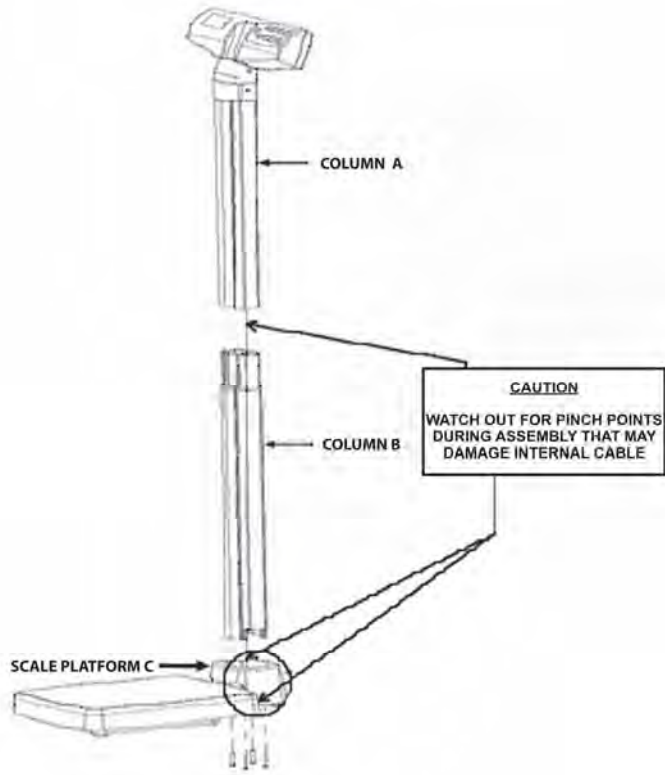

Figure 1
Assembling the 499KL Scale (Refer to Figures 1 - 8)
1. Carefully remove the scale platform and columns **A** and **B** from the carton. Place the scale platform and columns on a flat, level, and dry surface (see Figure 1).
2. Remove the 4 small screws and washers from the bottom of column **B** (see Figures 1 & 2).
3. Locate cable connector inside column **A** (see Figures 1 & 3).
4. While holding column **A**, slide the cable connector through the top of column **B**. The top of column **B** has a notch (see Figures 1 & 5).
5. Plug the cable connector into the RJ jack, located on the scale platform **C** (see Figures 1 & 4).
6. Align column **A** and column **B**, and ensure that the locking tabs are locked securely into place (see Figures 1 & 5).
8. Insert the 4 small screws through the bottom of the scale platform **C** holes and into column **B**. Ensure that washers are located between the screw heads and the scale platform holes (see Figures 1, 6, & 7).
9. Using a Phillips head screwdriver, tighten the screws to secure column **B** to the base of the scale platform **C** (see Figure 1, 6, & 7).